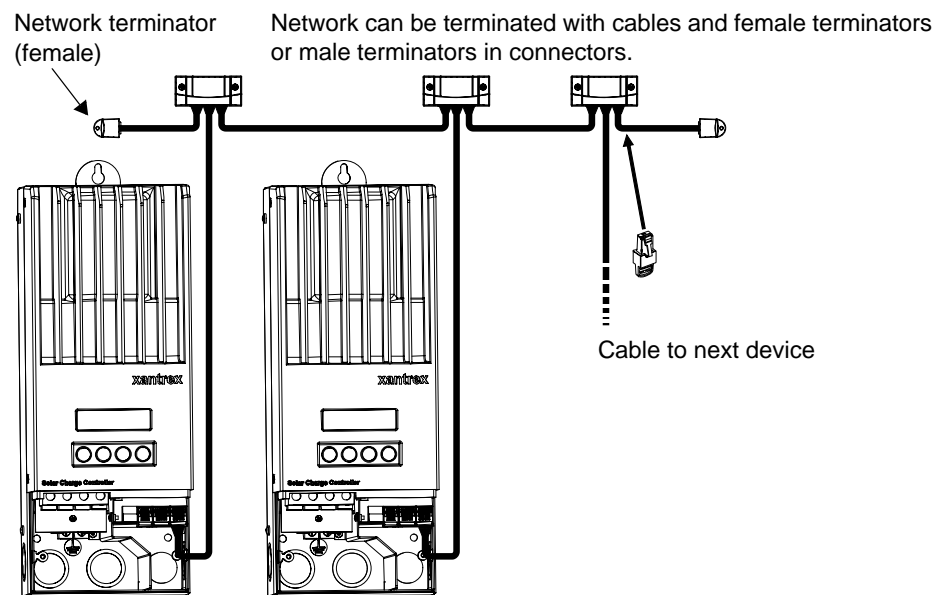

Figure 2-16 Multi-Drop Backbone Layout
In a multi-drop backbone layout, each Xanbus-enabled device on the network is connected by a drop cable to the network bus or backbone with a network connector, as shown in Figure 2-16.
Network terminators are required at both ends of the multi-drop backbone cable, as shown in Figure 2-16. Therefore, the Xanbus-enabled devices do not require their own termination.
If cables are placed at the end of the network, female terminators are required. Otherwise, male terminators can be inserted directly into the open jack of each network connector at the end of the network. See Figure 2-16.
6. Connect each network connector with a network cable as shown in Figure 2-16.